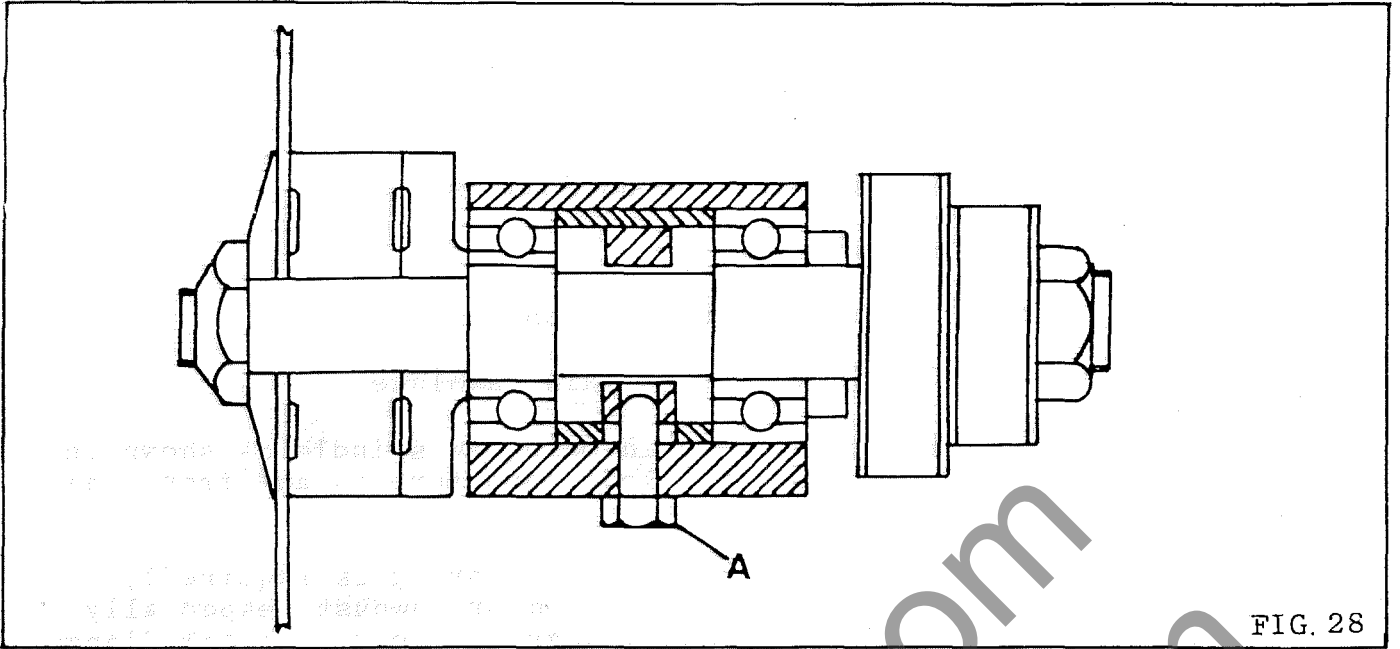

FIG. 28
1. Loosen the hexagon head adjuster bolt "A" in FIG.28, and tap spindle (with hide-face hammer) as required, taking care not to damage the threads on spindle ends.